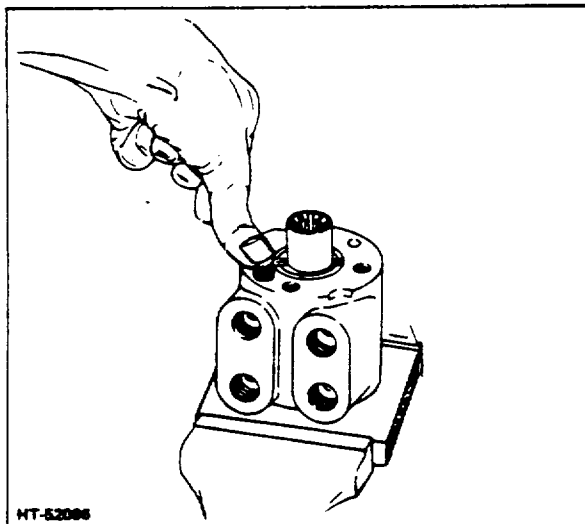

Figure 3-19. Rocking Check Plug During Installation
11. Install a new O-ring on the check plug, and install the plug in the housing, (Fig 3-19). Exert a steady pressure on the plug, rocking it slightly so the O-ring feeds in smoothly without cutting.